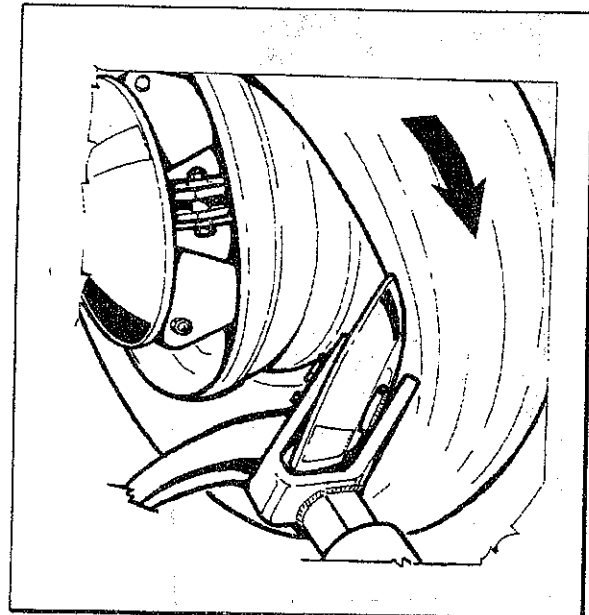

Fig.41
6. When breaking the inner bead be sure not to damage the valve stem (Fig.41).